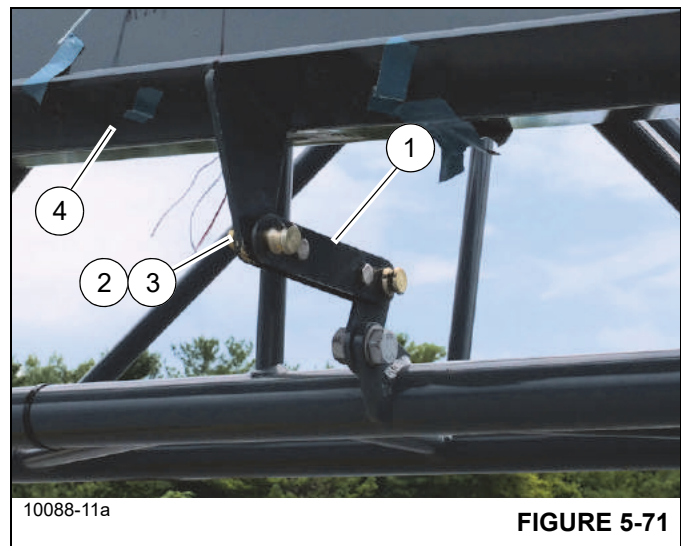

FIGURE 5-71
19. Attach the fly section to the boom extension base section using the connecting link (1, Figure 5-71). Secure connecting link with pin (3) and retaining clip (2).